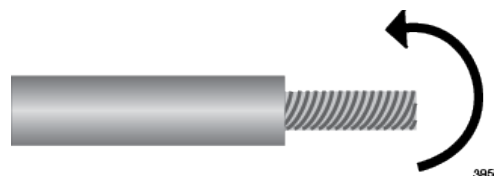

Figure 55. Wrapping the Wire Strands
2. Tightly wrap the wire strands with your finger tips. Refer to Figure 55. This can prevent loose strands from touching other wires and causing an electrical short.
2. Tightly wrap the wire strands with your finger tips. Refer to Figure 55 on page 107. This step can prevent loose strands from touching other wires and causing an electrical short.